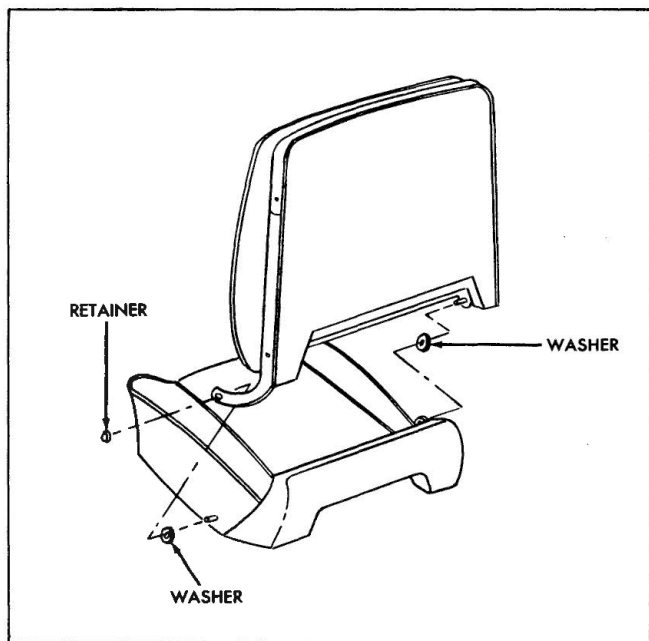

Fig. 23-3 Seat Back Removed
Fig. 23-3 is typical of all driver and passenger seat assemblies equipped with power operated seat adjusters.
5. On all styles, using a flat bladed tool, carefully remove retainer from outer hinge pin (Fig. 23-3).
10. To install, reverse removal procedure. Prior to installation of back assembly, be sure inner and outer washers are installed over the hinge pins. (Fig. 23-3).